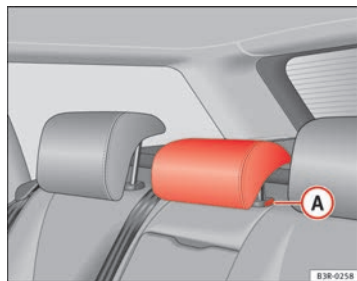

Fig. 114 Centre rear seat: Head restraints
- Press button **A** ⇒ fig. 114 and lower the head restraint.
- Press button **A** ⇒ fig. 114 and pull out the head restraint.